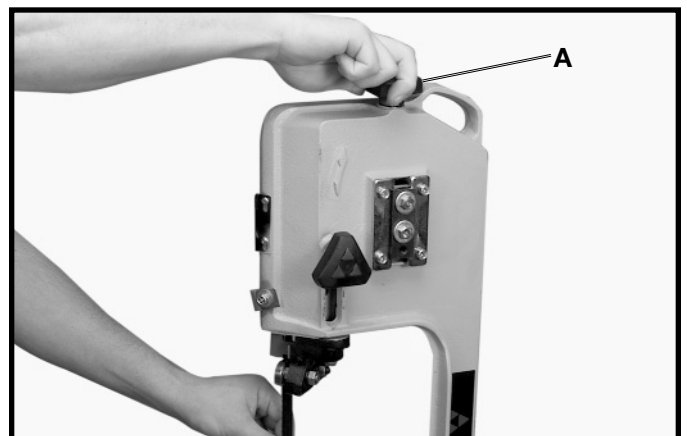

Fig. 16
1. Turn blade tension handwheel (A) Fig. 16, clockwise to increase or counterclockwise to decrease blade tension. Correct tension is obtained when the blade is just tight enough that no slippage occurs between the blade and the wheels.